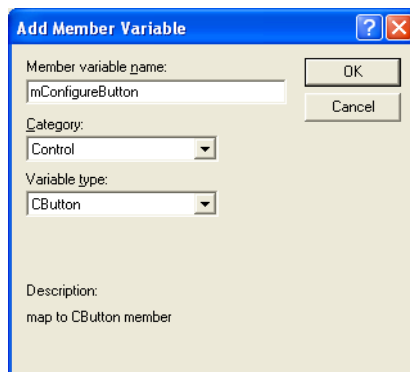

Figure 51 Adding a Member Variable with MFC ClassWizard
- For each Control ID, you must add a member variable. To add a member variable, double-click the Control ID and complete the form. Figure 51 shows the completed form for **IDC_BUTTON_CONFIGURE**.